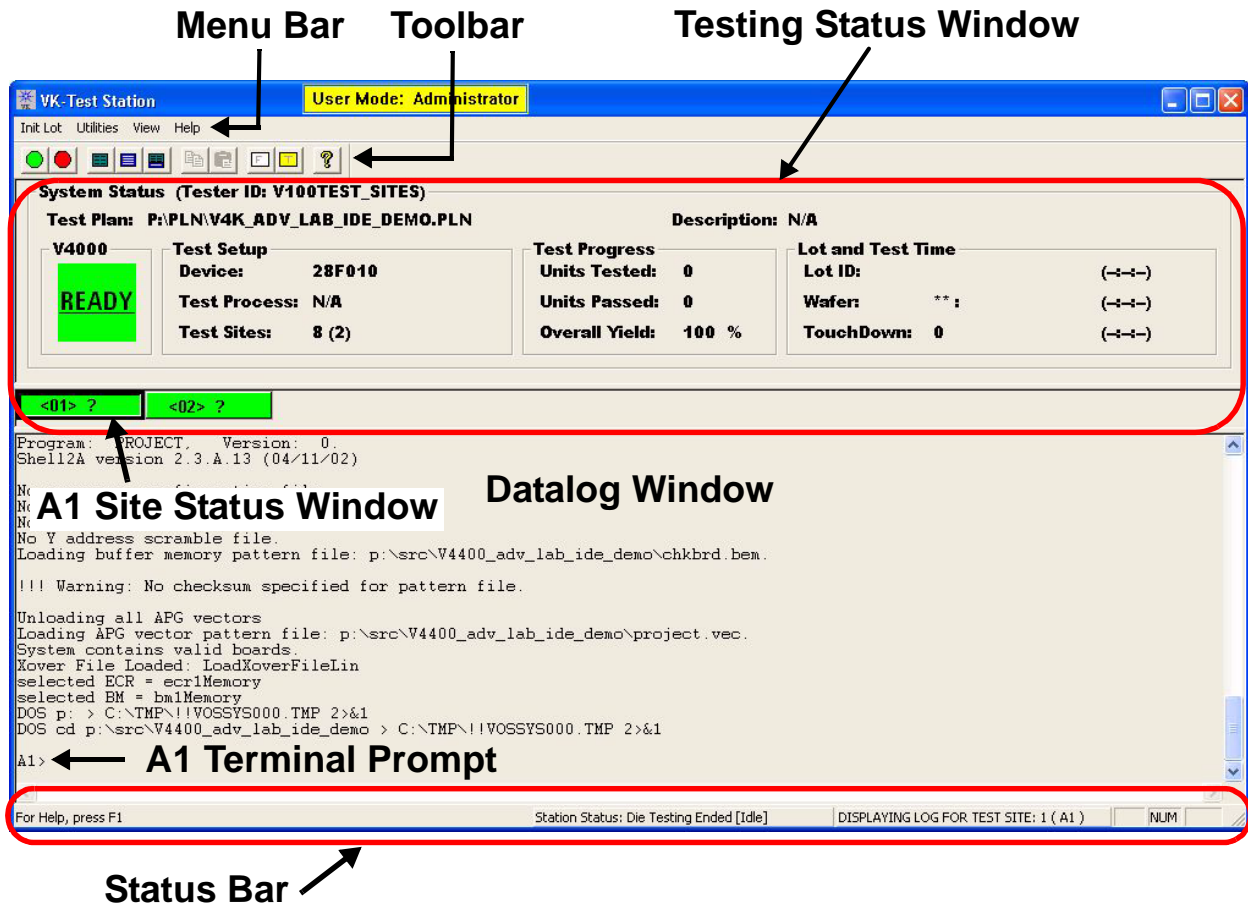

Figure 7-37. VK Test Station Main Window After Power On
- 8 Selecting begins the test head power on and downloads the Versatest Operating System (VOS) and the test program files specified in the plan file. The power on is complete when the terminal prompt A1> displays in the Datalog window (Figure 7-37).